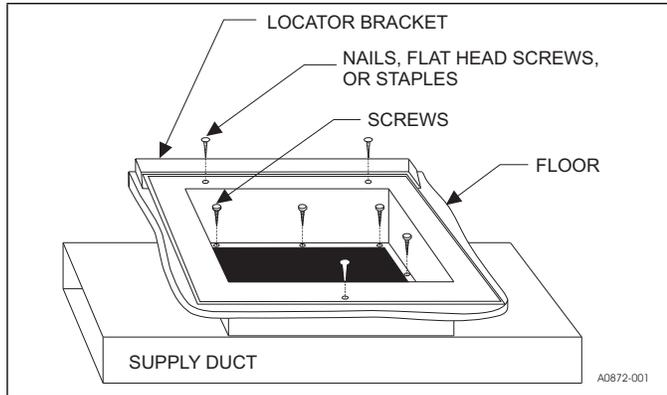

Figure 7: Duct connector screw attachment (7990 series)
3. Place locating bracket (supplied with the duct connector) to the back edge of the floor opening. See Figure 7.